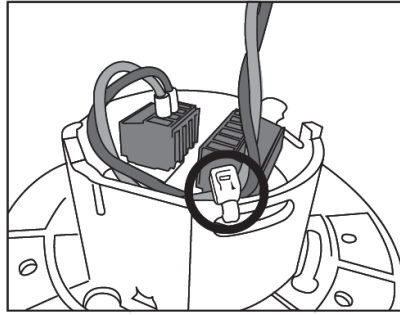

Figure 12: LOYBT-MS2/LOYBT-MS4 strain relief.
- Use cable tie to ensure proper strain relief (see Figure 12).